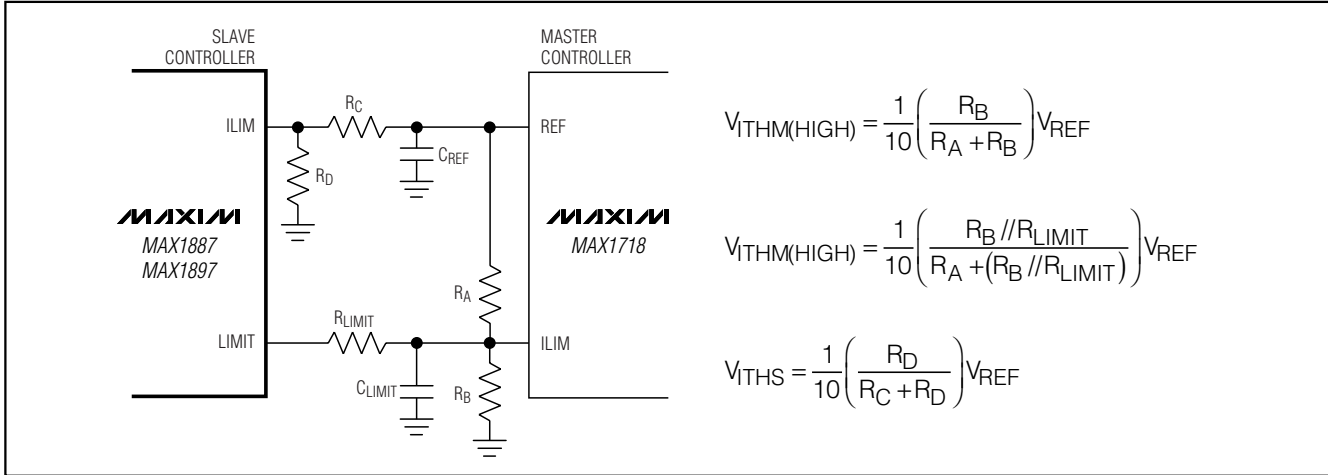

Figure 5. Setting the Adjustable Current Limits
where V_{ITHM} , the master's current-limit threshold, is typically 1/10th the voltage seen at the master's ILIM input ($V_{ITHM} = 0.1 \times V_{ILIM}(MASTER)$, see the master controller's data sheet). Connect a resistive voltage-divider from the master controller's internal reference to GND, with the master's ILIM input connected to the center tap (Figure 5). Use 1% tolerance resistors in the divider with 10µA to 20µA DC bias current to prevent significant errors due to the ILIM pin's input current:
where V_{ITHS} , the slave's current-limit threshold, is precisely one-tenth the voltage seen at the slave's ILIM input ($V_{ITHS} = 0.1 \times V_{ILIM}(SLAVE)$). Connect a second resistive voltage-divider from the master controller's internal reference to GND, with the slave's ILIM input connected to the center tap (Figure 5). The external adjustment range of 400mV to 1.5V corresponds to a
Now select the resistive-divider values (R_A and R_B in Figure 5) to set the appropriate voltage at the master's ILIM input:
Select the resistive-divider values (R_C and R_D in Figure 5) to set the appropriate voltage at the slave's ILIM input:
- 4) Determine R_{LIMIT} (Figure 5) from the above equation: